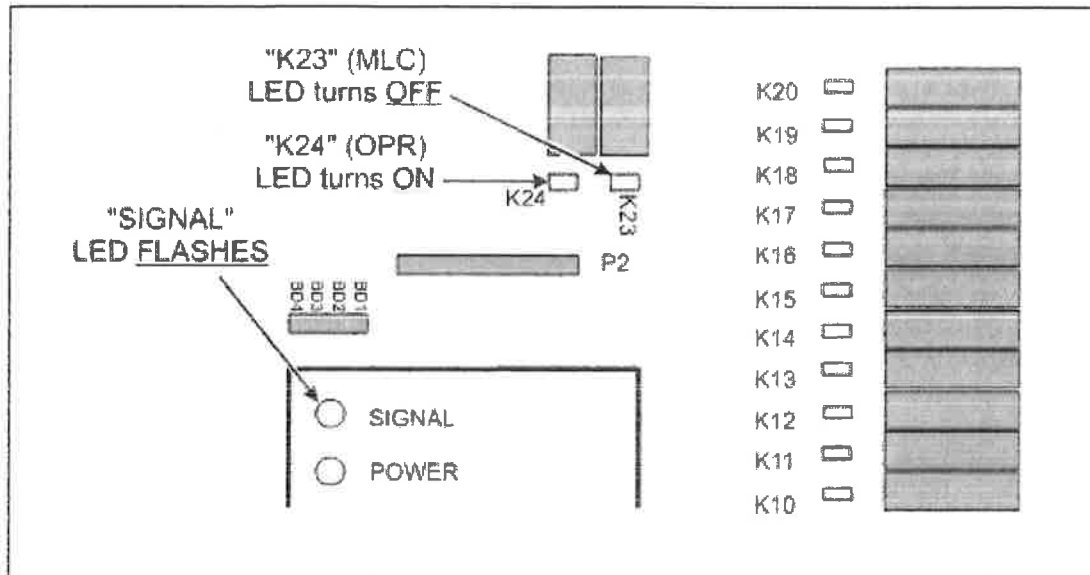

Figure 11: 21R22 Status LED Indicators - Transmitter ON
5. Verify that the K24 (OPR) LED turns ON and the SIGNAL LED FLASHES. Refer to Figure 11.